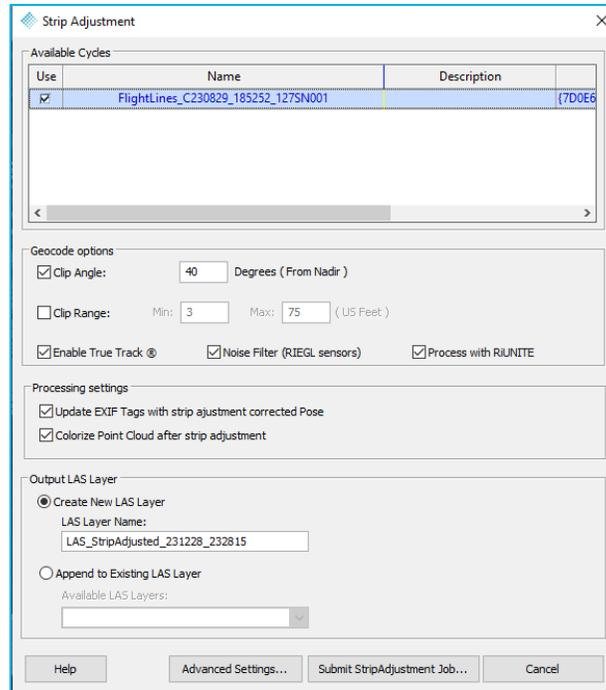

Figure 88 - Strip Adjustment dialog
2. Select **Strip Adjustment**  on the Sensor tab (Figure 87) to open the Strip Adjustment dialog (Figure 88). **Note:** To enable this tool requires a “Strip Adjustment” or a “Strip Align” addon license be checked out in addition to the “LP360 Drone” license.